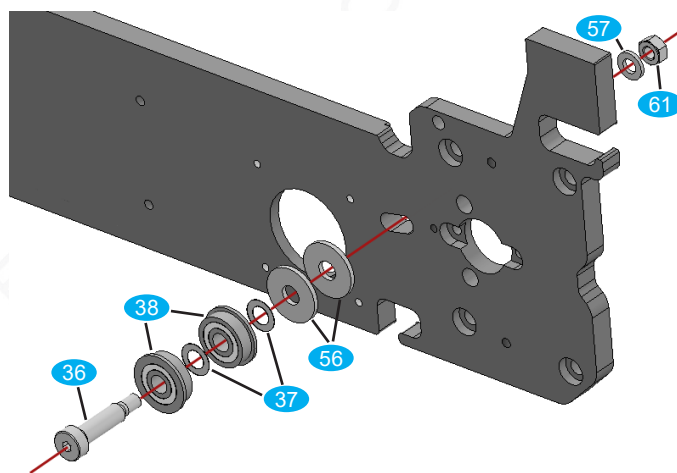

Fig. 23: Mounting the tension pulley (surrounding components are not shown for clarity)
- Assemble the tension pulley as shown in Fig. 23. Do not tighten the screw connection yet.